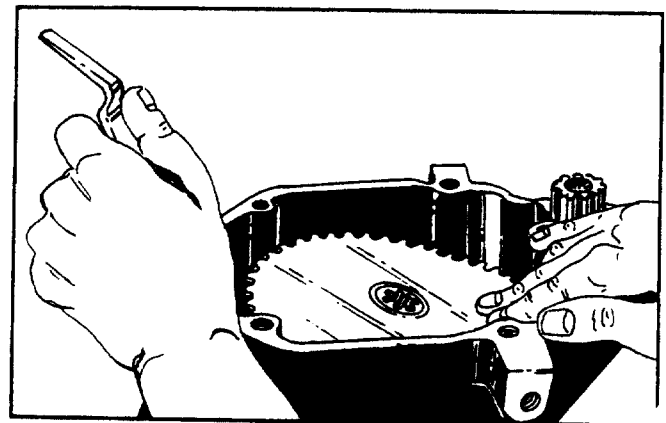

FIGURE 10.
- 2.202 Unbolt reduction housing cover plate seven (7) bolts. Tap cover to loosen, peel off gasket and discard. Remove screw in the center of the reduction gear, lift up and tip up on opposite side of pinion until the gear can be lifted out. See figure 10.